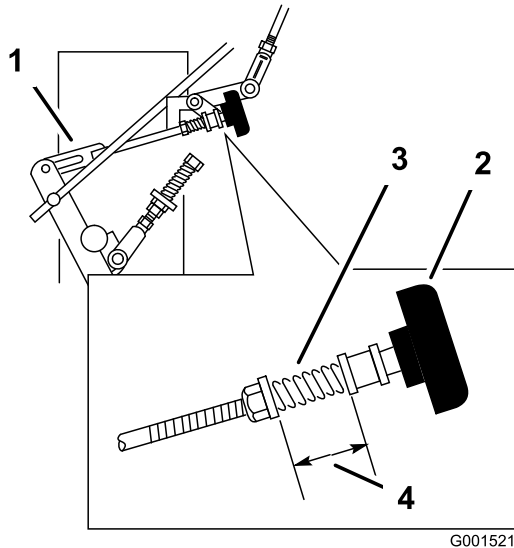

Figure 41
3. Adjust the right side linkage by turning the quick track knob counterclockwise until the tire begins to rotate forward (Figure 41).
4. Turn the knob clockwise 1/4 of a turn at a time. Then move the speed control forward and back to neutral. Repeat this until right wheel stops rotating forward (Figure 41).
6. The spring that keeps tension on the knob should normally not need adjustment. However if an adjustment is needed, adjust the length of spring to 1 inch (26 mm) between the washers (Figure 41).
7. Adjust spring length by turning nut at front of spring (Figure 41).